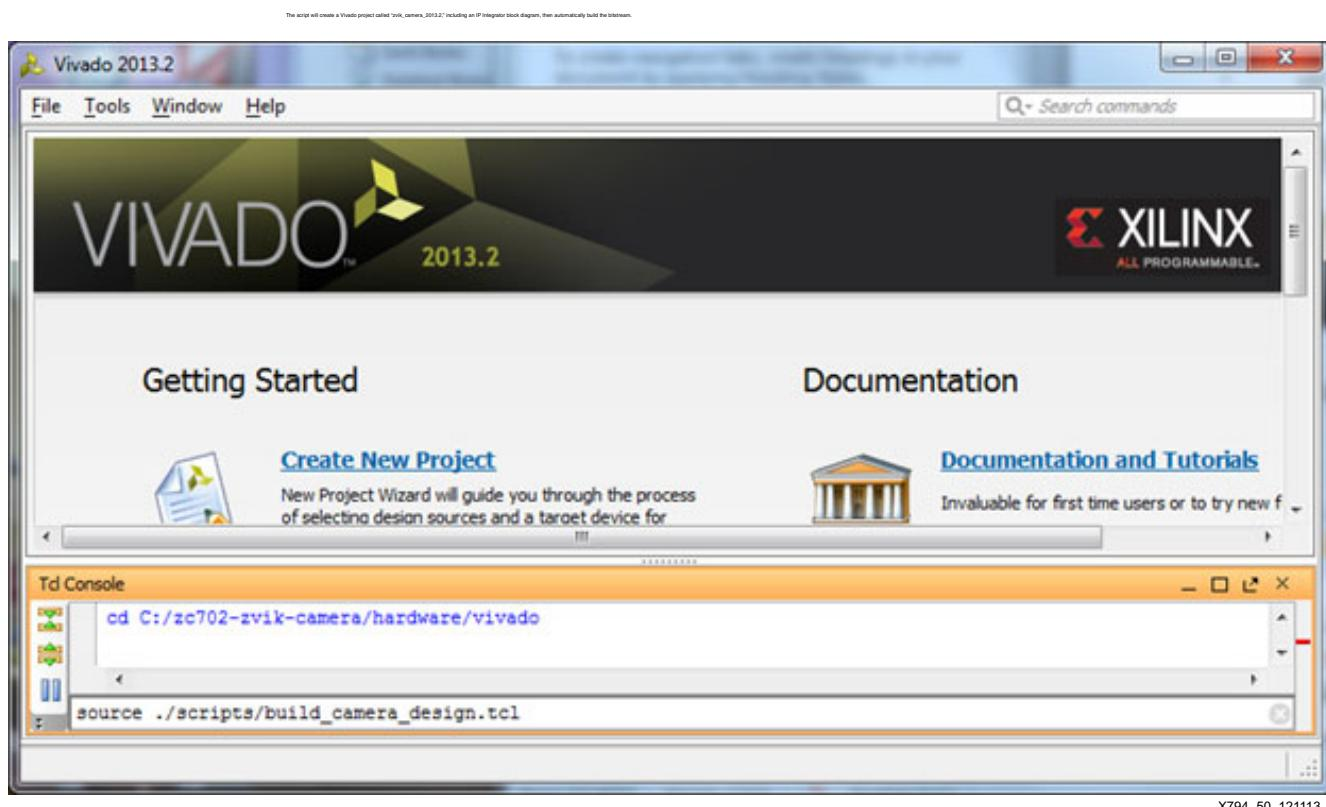

Figure 50: Vivado 2013 Tcl Console
2. From the Vivado welcome screen in the Tcl console, run these commands (see Figure 50):